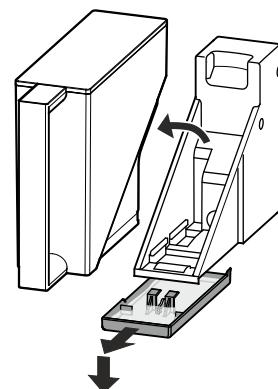

Figure 24
- To empty the water collecting tray: Remove the water tank. Carefully disengage the tray forwards and then lower for removal **Figure 24**.